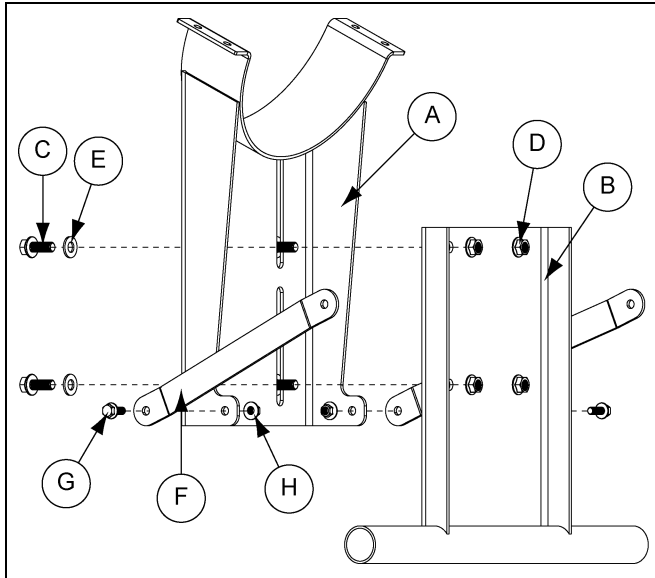

Figure 4A
1. Attach the lower stand weldment (B) to the upper stand weldment (A) by using the 1/2" bolts (C), nuts (D) and washers (E). (See Figure 4A.)
2. Attach the stand strap (F) to the upper stand weldment (A) by using the 3/8" bolts (G) and nuts (H). (See Figure 4A.)